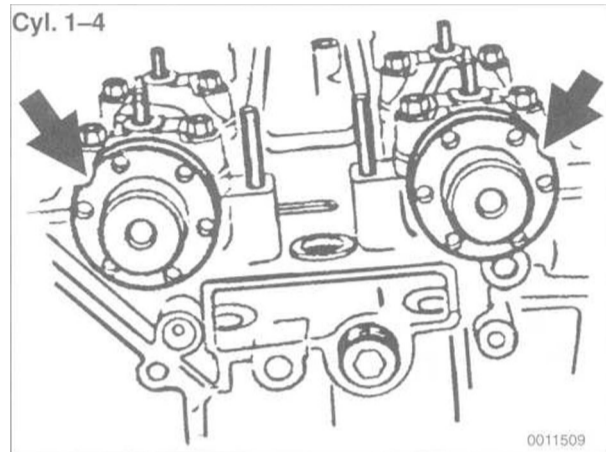
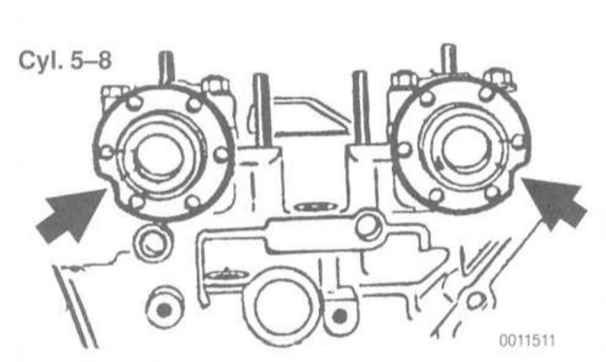

Fig. 30. Right Cylinder Head (passenger side): position camshafts with cutouts in flanges pointing up approximately 30 - 40° from horizontal plane.
Fig. 31. Left Cylinder Head (driver's side): position camshafts with cutouts in flanges pointing down approximately 30 - 40° from horizontal plane.
6. Carefully turn camshafts so that cutouts in camshaft flanges are positioned as shown in Fig. 30 or Fig. 31.
Check all components for wear as described below under **Cylinder Head Reconditioning**. Be sure all parts are installed in their original positions. Lubricate the camshafts prior to installation. When installing the camshafts into the cylinder head, position them as shown in Fig. 30 or Fig. 31.